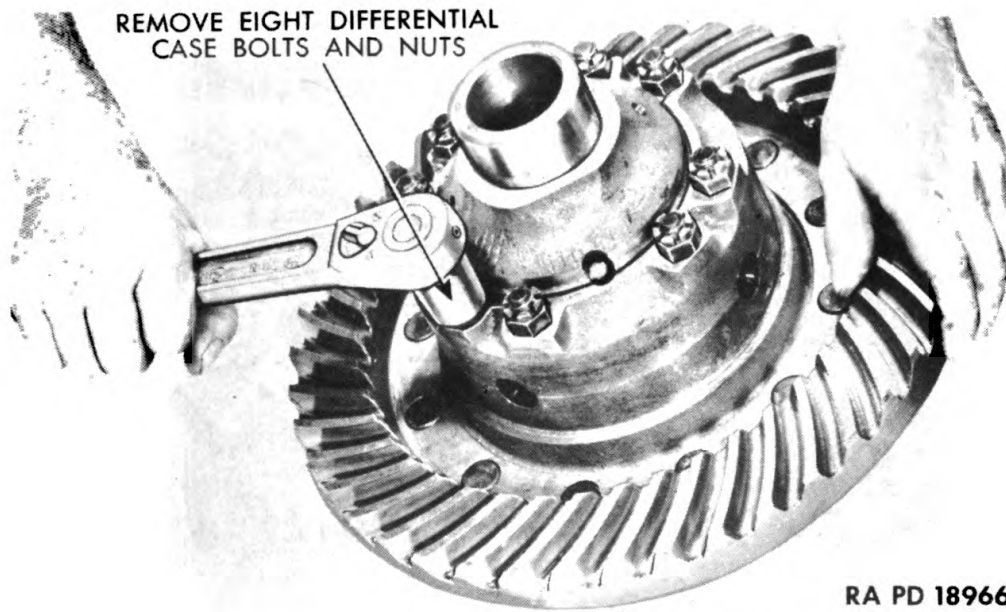

Figure 47 — Removing Differential Case Bolts
(4) **REMOVE DIFFERENTIAL CASE BOLTS.** Remove cotter pins from eight differential case bolts. Remove nuts from bolts, and remove bolts from differential case (fig. 47).